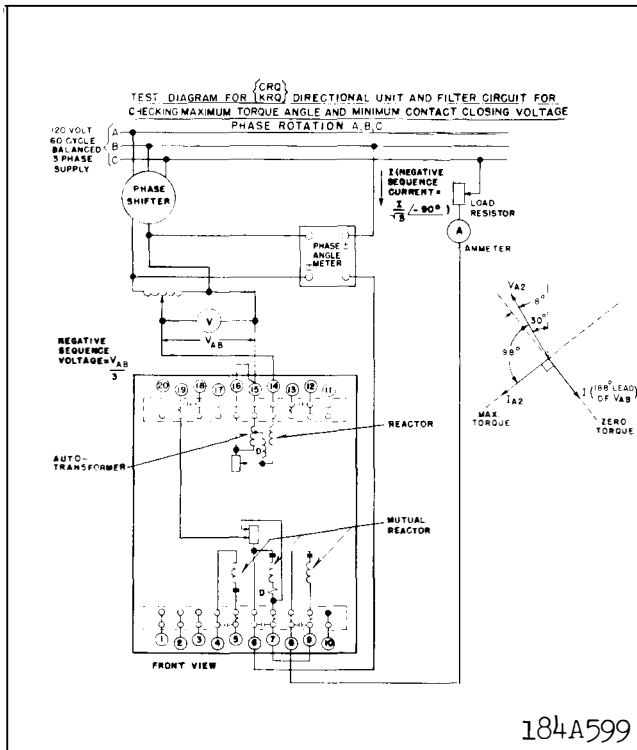

Fig. 7. Test Diagram for Checking Maximum-Torque Angle and Minimum Voltage for Contact Closure of Directional Unit.
2. Sensitivity - Refer to the test diagram in fig. 7. Apply a single-phase voltage V_{AB} equal to 0.57 volts (corresponds to a negative-sequence input voltage of .19 volts) and a single-phase current equal to 6.93 amperes as shown (corresponds to a negative sequence input current of 4 amperes). With a phase angle meter connected as shown, rotate the phase shifter until the current leads the voltage by 188° . This corresponds to the negative sequence component of current leading the negative sequence component of voltage by 98° . The directional unit contact should pick up within $\pm 10\%$ of the above input voltage to the relay. The above quantities are determined as follows:
The spring is to be adjusted such that the contacts will close when the relay is energized with 0.57 volts and 6.93 amps at 188° (current leading voltage), considering the relay connected to the test circuit in Fig. 7.